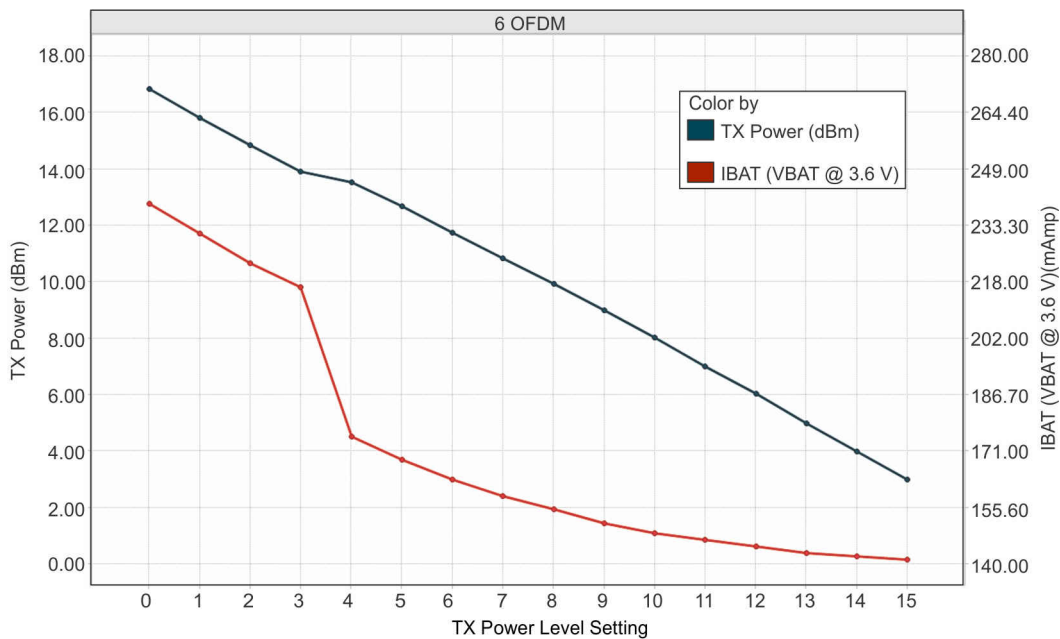
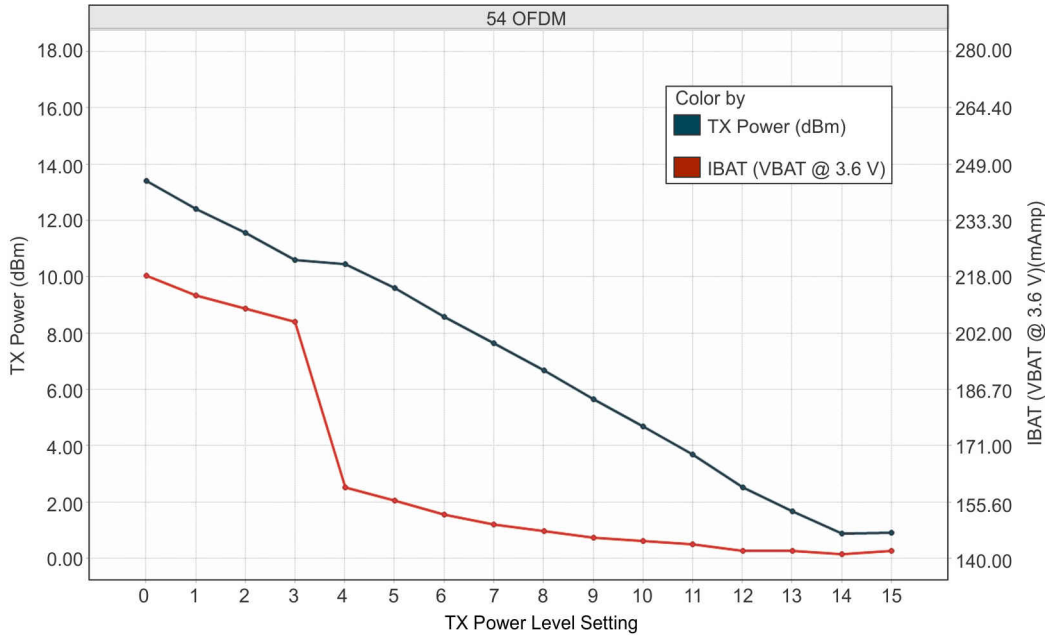

图 8-2. TX Power and IBAT vs TX Power Level Settings (6 OFDM)
图 8-3. TX Power and IBAT vs TX Power Level Settings (54 OFDM)
- (1) TX power level = 0 implies maximum power (see 图 8-1, 图 8-2, and 图 8-3). TX power level = 4 implies output power backed off approximately 4 dB.
- (2) The CC3120MOD system is a constant power-source system. The active current numbers scale inversely on the V_{BAT} voltage supplied.
- (3) The RX current is measured with a 1-Mbps throughput rate.
- (4) DTIM = 1
- (5) The complete calibration can take up to 17 mJ of energy from the battery over a time of 24 ms. In default mode, calibration is performed sparingly, typically when re-enabling the NWP and when the temperature has changed by more than 20°C . There are two additional calibration modes that may be used to reduced or completely eliminate the calibration event. For further details, see the CC3120, CC3220 SimpleLink™ Wi-Fi® and IoT Network Processor Programmer's Guide.